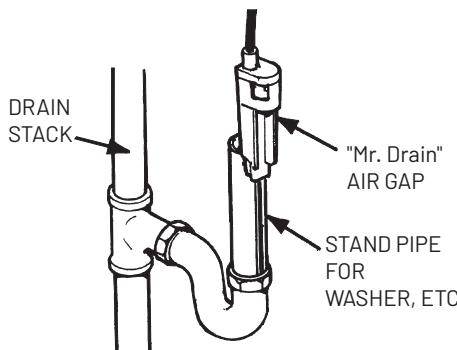

Figure 6
- The air gap should be installed between the end of the drain line and the drain to prevent possible back siphoning (see figure 6).